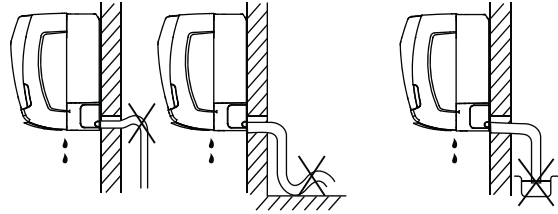

Fig. 8 — Condensate Piping, Poor Installation
- **DO NOT** install any U bends or dump condensate line in a sump filled with water. See Fig. 8.